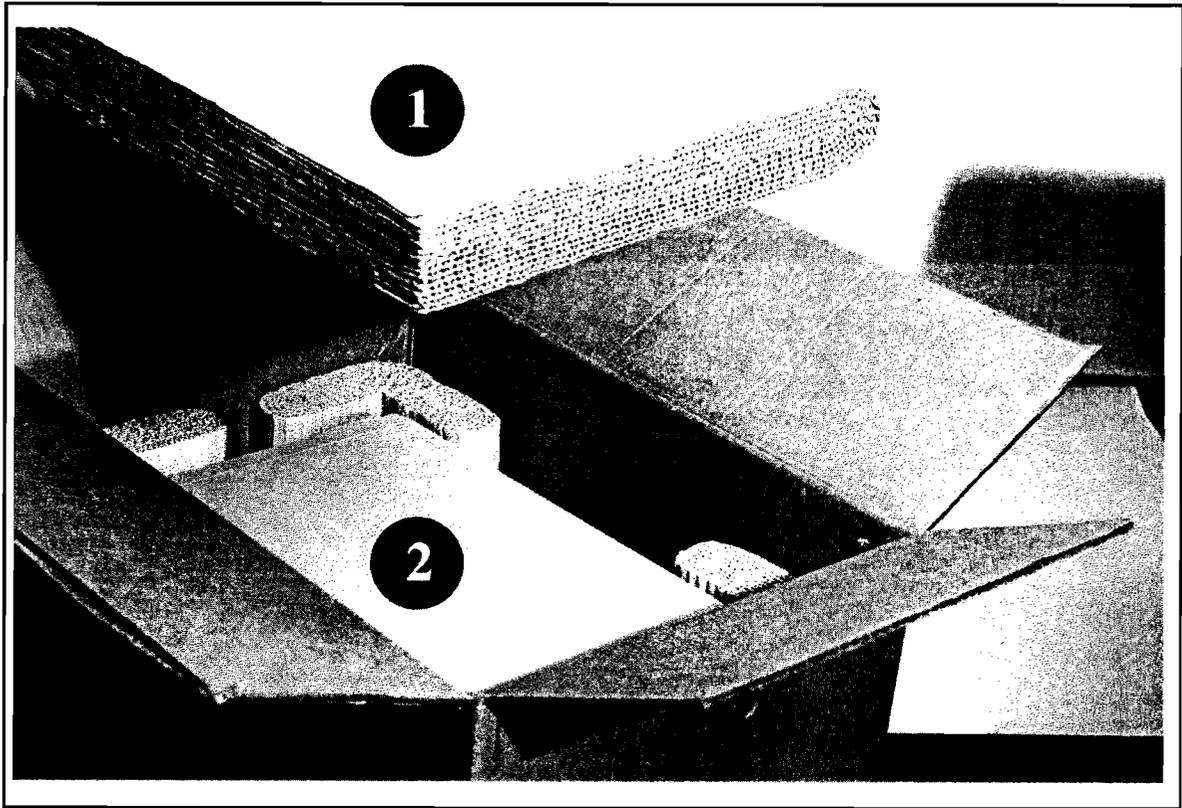

Figure 2-3. Packing Material
1. Remove the rigid shipping block ① from the top of the shipping container. Refer to Figure 2-3. Check the rigid packing material for signs of damage, which could indicate rough handling during transit.